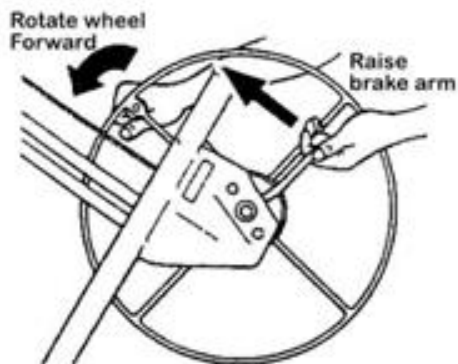

Figure 2
- a. Hold the winch wheel and brake arm as shown in Figure 2. Rotate the winch wheel forward slightly while you lift on the brake.